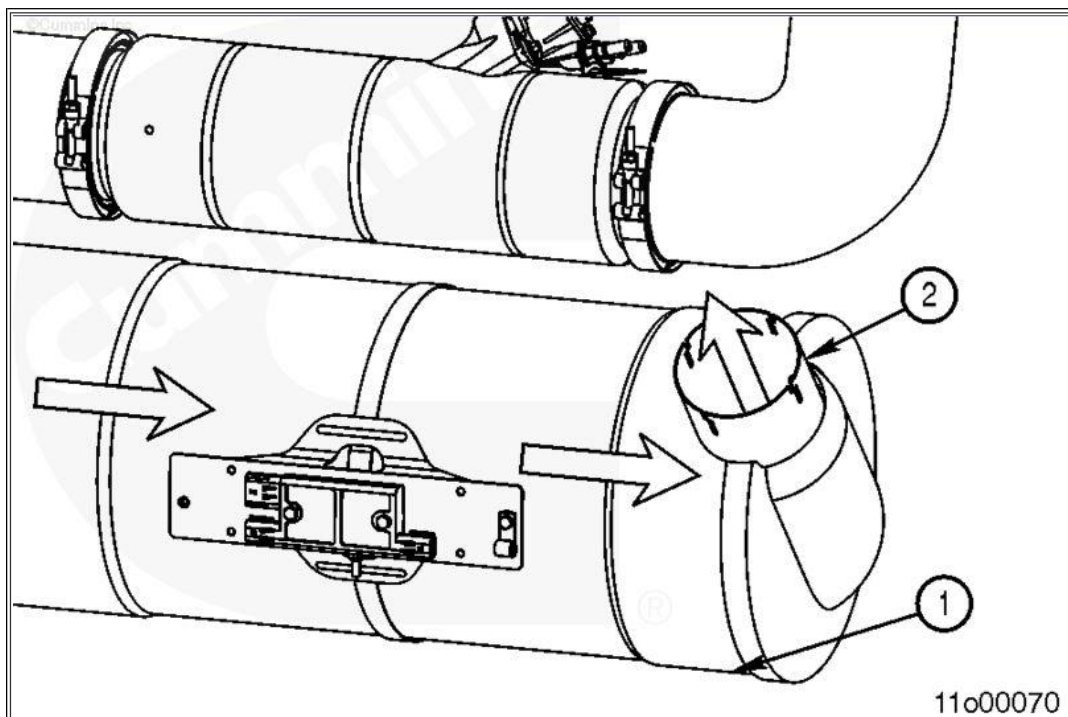

Figure 3: Orientation of Drain Hole
3. The drain hole (Figure 3, Item 1) is **always** oriented in the lowest section of the aftertreatment SCR catalyst outlet (Figure 3, Item 2), pointed toward ground.